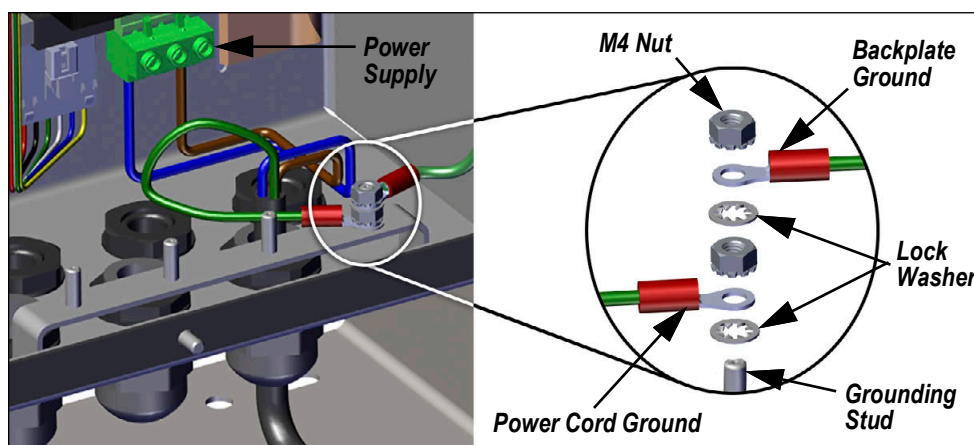

Figure 2-6. Connect DC Wiring
1. Run DC power cable (not included) up through the cord grip (Figure 2-6).
2. One wire will be terminated (grounded) at a stud near the cord grip using the proper grounding stack. The backplate ground is already attached to a stud. Remove it so that the power cord ground can be on the bottom of the stack as represented in Figure 2-6. Torque nuts to 10 in-lb (1.13 N-m).
3. Run the other two wires toward the back of the enclosure and connect them to the three pin plug (included in the parts bag) that connects into the power supply board as shown in Figure 2-6 and Table 2-2.